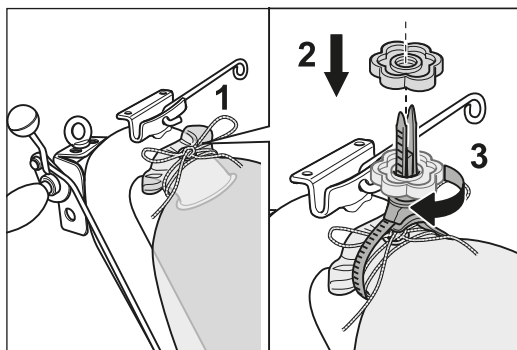

Fig. 13 Mount the dust bag using the cord (1) and the MultiClip (2 and 3) at the end of the guide tube.
- 7 Fasten the dust bag firmly using the cord and the MultiClip at the end of the guide tube (fig. 13). Ensuring when mounting that the opening of the guide tube is not closed.